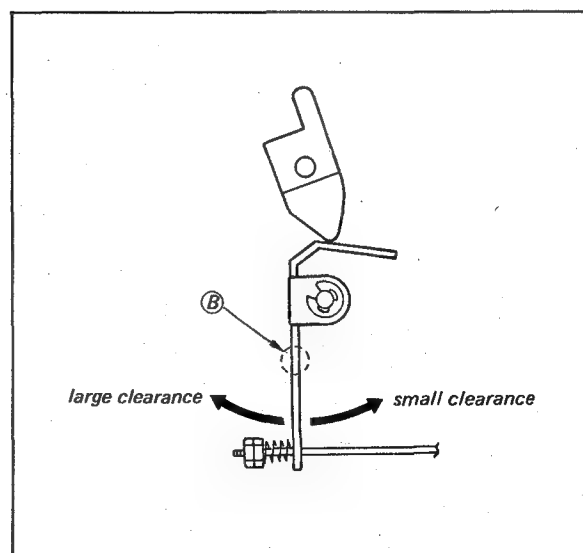

Fig. 4-29. Automatic shutoff actuator adjustment
- b) Bend the lower part ② of the actuator so that the top end of the actuator is 4 to 8 mm apart from the tape's running surface in the STOP mode. See Fig. 4-29.